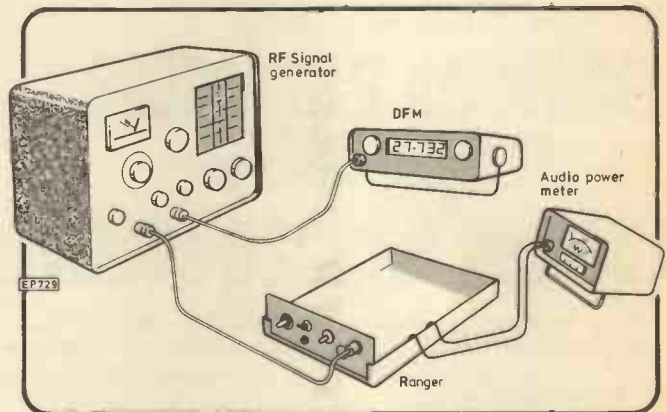

Fig. 4.3. Measurement of receiver sensitivity
- (iii) A stable and accurately calibrated r.f. signal generator with a 50Ω attenuated output. The generator should preferably also have an FM facility rather than the more usual AM. See Fig. 4.3.